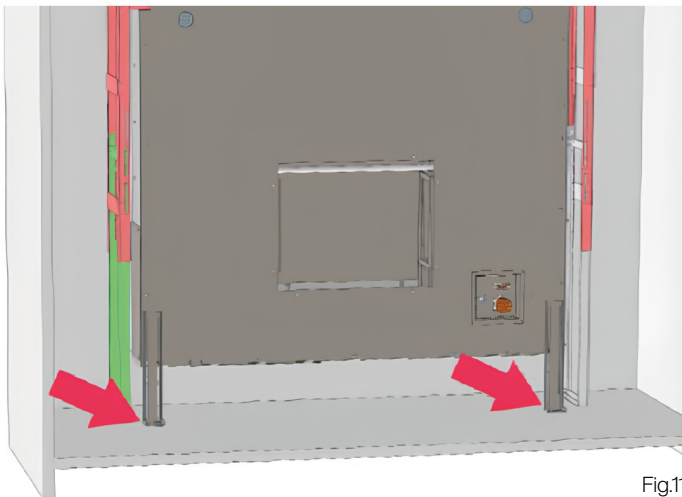

Fig.11
11. Check that the downdraft inside the kitchen unit is perfectly vertical. Fix it utilising the brackets supplied (Fig.11)